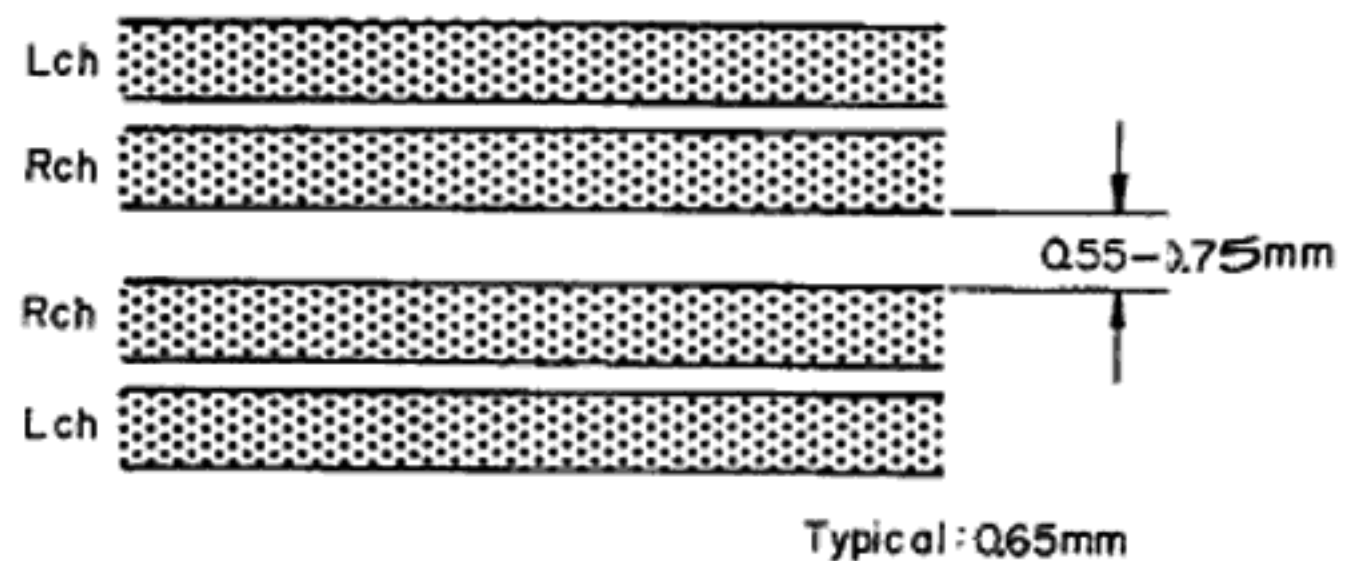

Fig. 4.20
- (l) Immerse the recorded tape in a magnetized developing solution. In turn, check to insure that the recording head tracks across the center are separated with a distance of 0.55 to 0.75 mm (typically 0.65 mm) as illustrated in Fig. 4.20.